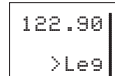

Figure 3-4
1. Press and hold the  button for approximately 2 seconds. The standby frequency will disappear and the active frequency will be the same as before you pressed the  button (figure 3-4).